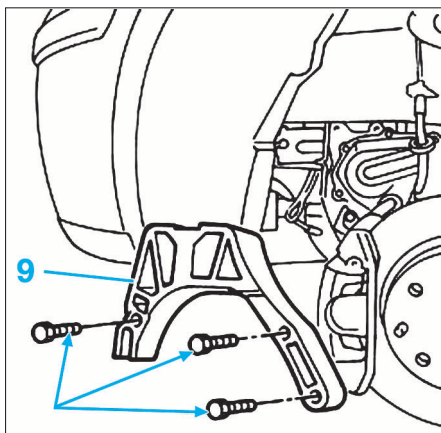

FIG. 7
- Déposer le support (9) (Fig.7).